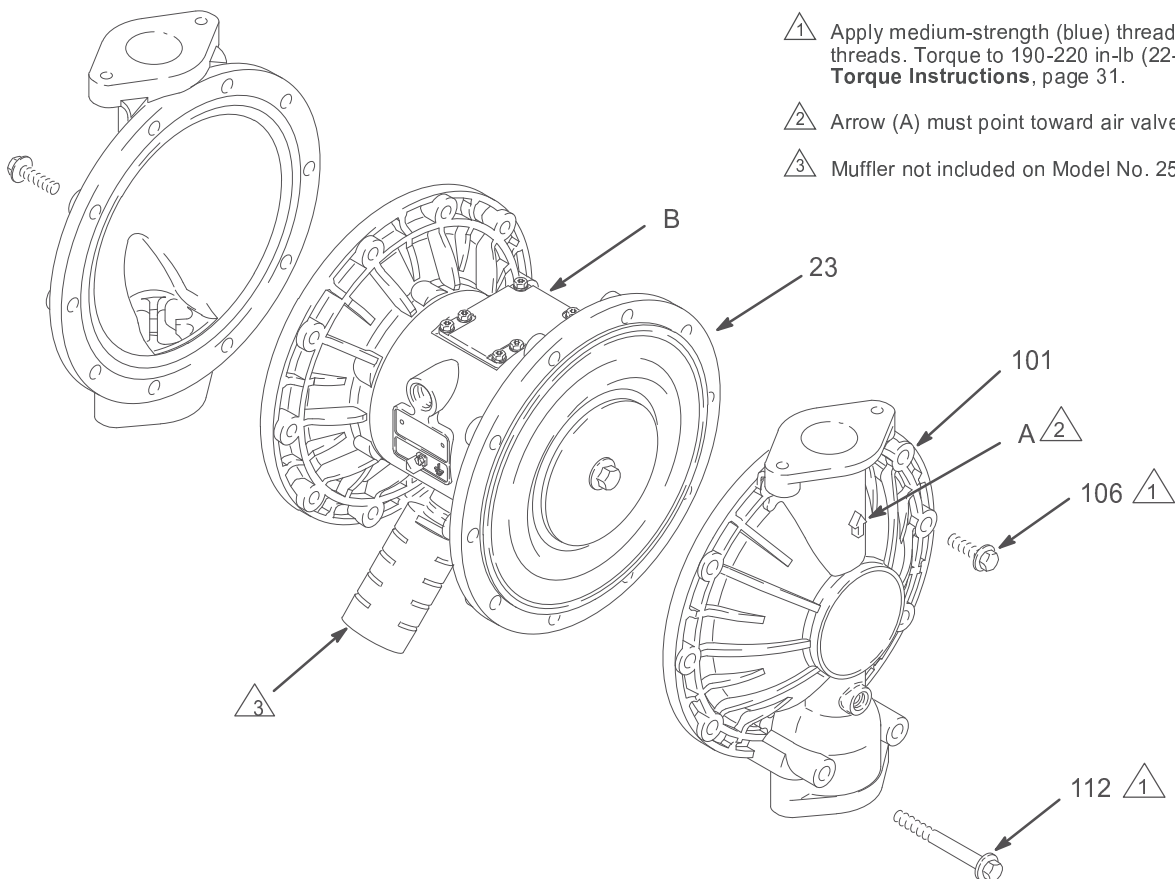

FIG. 11
3. Using a 13 mm socket wrench, remove the screws (106 and 112) holding the fluid covers (101) to the air covers (23). Pull the fluid covers (101) off the pump. See FIG. 11.
- Install the o-ring (108*) on the shaft bolt (107).
- Install the fluid side diaphragm plate (105) on the bolt so the rounded side faces in, toward the diaphragm (401).
- On PTFE models only*, install the PTFE diaphragm (403*). Make certain the side marked AIR SIDE faces the center housing (1).
- Install the diaphragm (401*) on the bolt. Make certain the side marked AIR SIDE faces the center housing (1).
- Install the air side diaphragm plate (104) so the recessed side faces the diaphragm (401).
- Apply medium-strength (blue) thread locker to the bolt (107) threads. Screw the bolt (107) into the shaft (24) hand tight.
- For overmolded diaphragms:* Assemble the air side plate (104) onto the diaphragm (403). The wide, radiused side of the plate must face the diaphragm. Apply medium-strength (blue) thread locker to the threads of the diaphragm assembly. Screw the assembly into the shaft (24) hand tight.
- Grease the length and ends of the diaphragm shaft (24), and slide it through the housing (1).
- Hold one shaft bolt (107) with a wrench and torque the other bolt to 20-25 ft-lb (27-34 N•m) at 100 rpm maximum. *NOTE: This step does not apply to pumps with overmolded diaphragms.*
- Align the fluid covers (101) and the center housing (1) so the arrows (A) on the covers face the same direction as the air valve (B). Apply medium-strength (blue) thread locker to the threads of screws (106) and (112), and secure the covers with the screws handtight. Install the longer screws (112) in the bottom holes of the covers. See Fig. 11. Using a 13 mm socket wrench, torque the screws oppositely and evenly to 190-220 in-lb (22-25 N•m). See **Torque Instructions**, page 31.